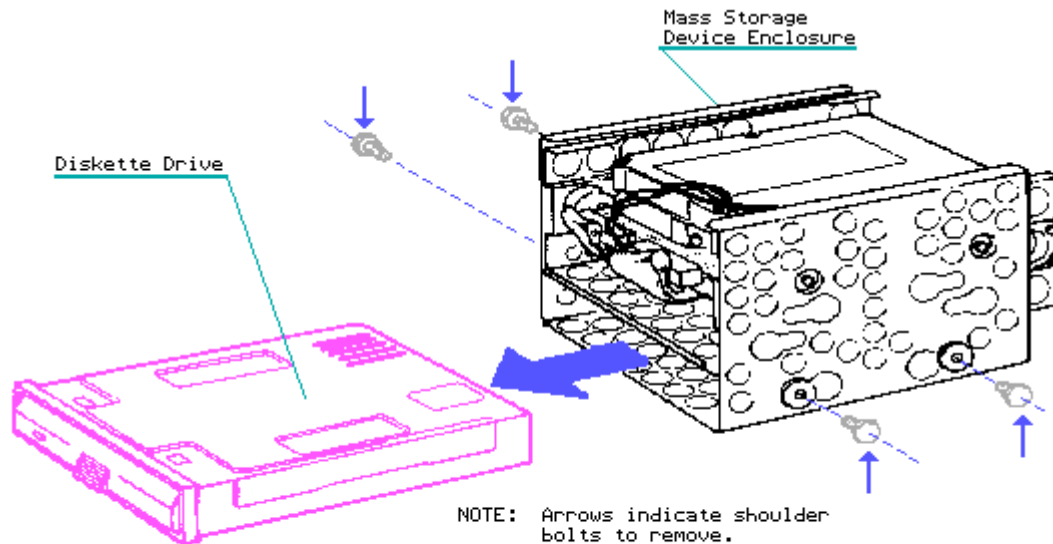

Figure 7-60. Removing the Diskette Drive
2. Using a Torx screwdriver, remove the two shoulder bolts that secure the diskette disk drive assembly from either side of the mass storage device subassembly enclosure (Figure 7-60).
3. Slide the diskette drive assembly out of the mass storage device subassembly enclosure (Figure 7-60).